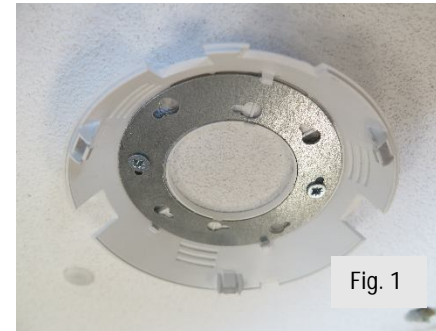

Fig. 1
2. Make sure the power is disconnected. Route the DC power wires or Ethernet cable through the ceiling opening (Fig.1)
1. Secure the Flat ceiling adapter to the ceiling using two wall plugs and screws (Fig.1). When marking screws position, note the view direction arrow marker on the adapter and check it aligns with the required view direction (small adjustments can be made by rotating the adapter relatively to the metal plate, before tightening the screws).